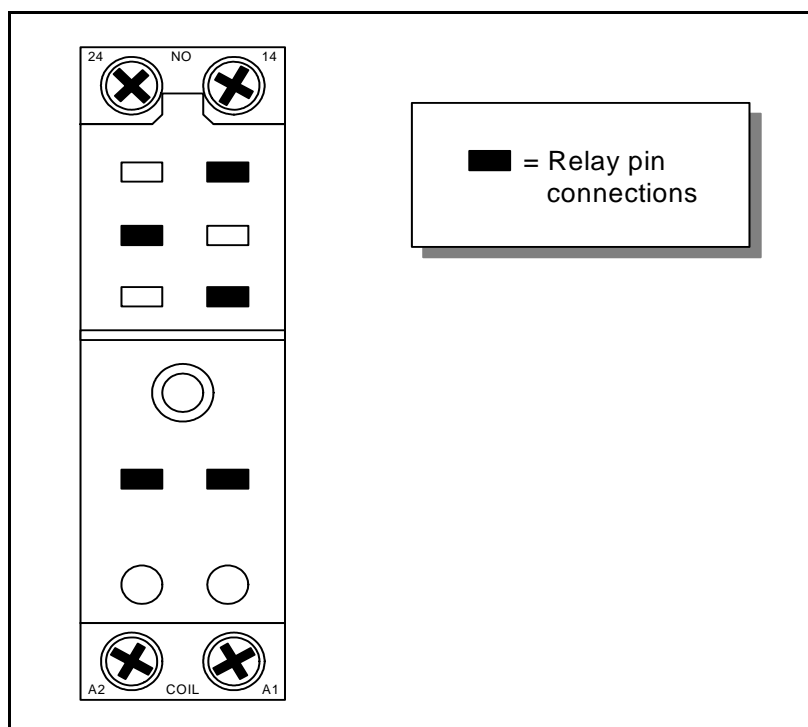

Figure 17.5.4.6.4-1 Heater Control Relay Socket
1. Insert the new relay (coil end down) into the relay holder/jack being careful with connector alignment. Terminals on the relay may be easily bent out of position. See Figure 17.5.4.6.4-1.